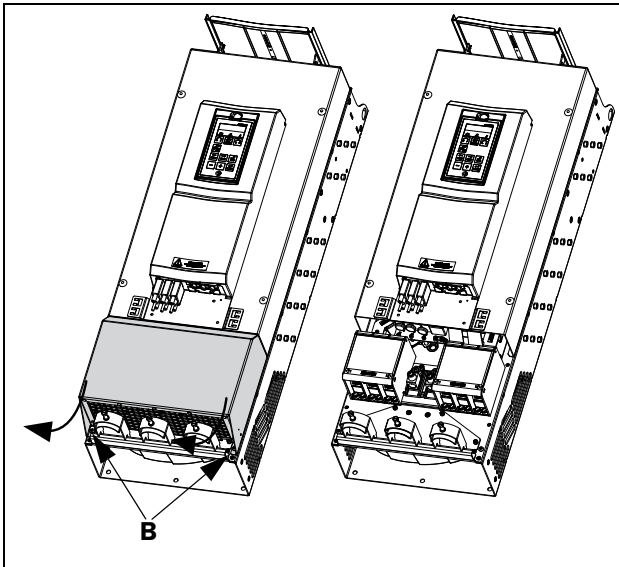

Fig. 30 Loosen the two screws and remove the lower cover (principle drawing).
- Loosen the two screws B (see fig. 30).